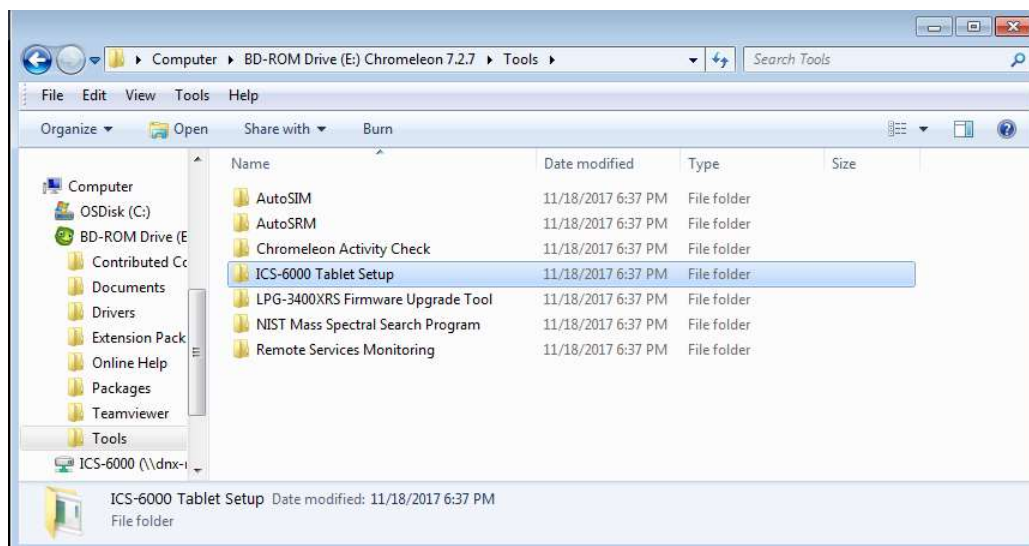

Figure 3-45. ICS-6000 Tablet Setup Utility Location
2. Locate the **Tools/ICS-6000 Tablet Setup** folder (see Figure 3-45).